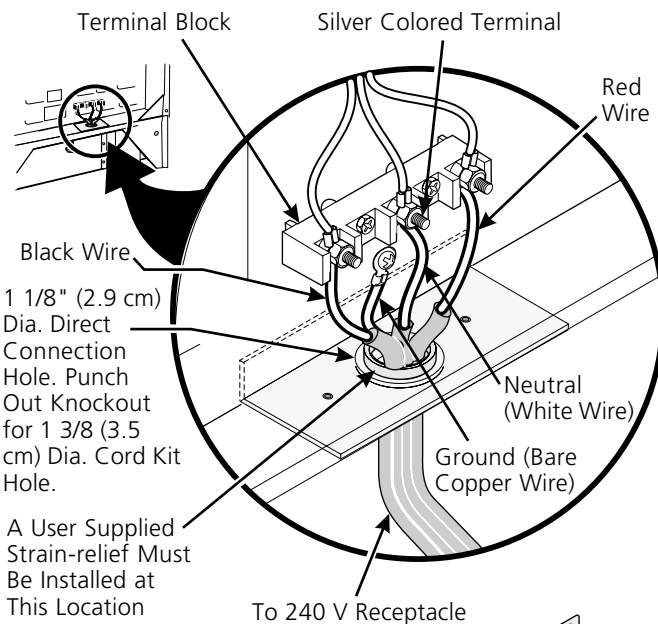

**Figure 4**
**NOTE:** Electric Slide-in Range is shipped from factory with 1 1/8" (2.9 cm) dia. hole as shown on figure 4. If a larger hole is required, punch out the knockout.
(The 3-conductor cord or cable must be replaced with a 4-conductor cord or cable where grounding through the neutral conductor is prohibited in new installations, mobile homes, recreational vehicles or in other areas where local codes do not permit neutral grounding) If local codes permit connection of the frame grounding conductor to the neutral wire of the copper power supply cord (see Figure 4).
4. Replace the 3 nuts on the terminal block (see figure 4).